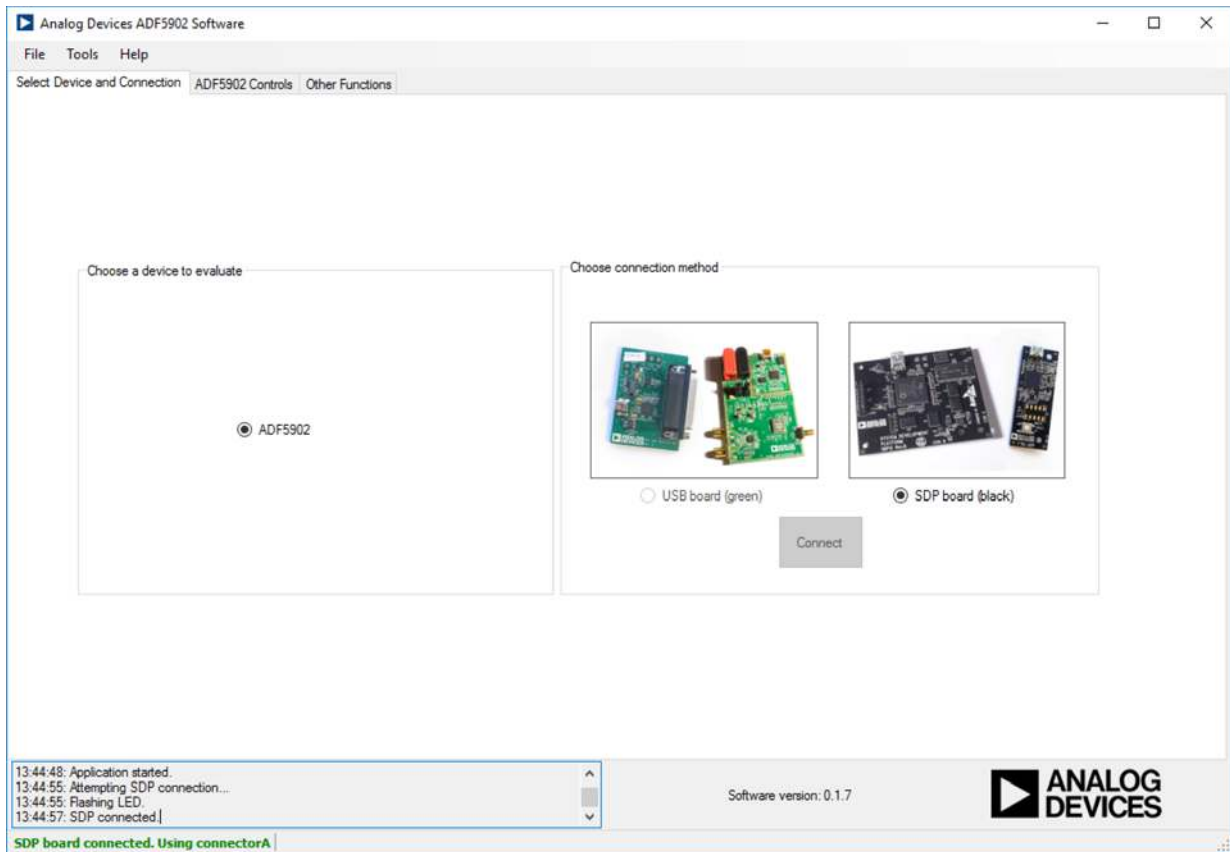

Figure 3. PLL Software Front Panel Display, Select Device and Connection
8. Click the **Select Device and Connection** tab in the PLL software window. Select **SDP board (black)**, the ADF5902 device, and click **Connect** (see Figure 3).